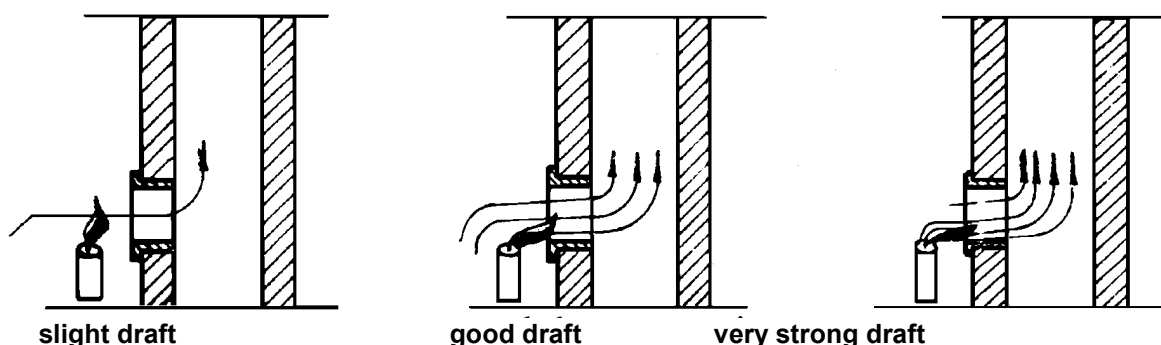

Figure 2
- Flue pipes that do not have thermal insulation and do not stand vertically, must not be longer then 1,25m. Check of the draft strength is performed by using candles (fig. 2).